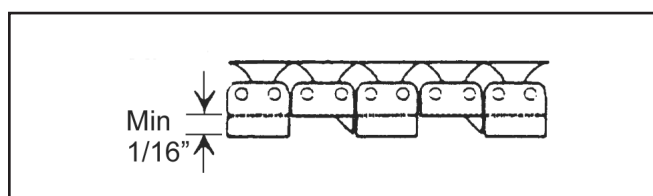

Figure 3. Chain Segment Wear
1. Using adjustable calipers, measure several chain segments as illustrated in Figure 3.